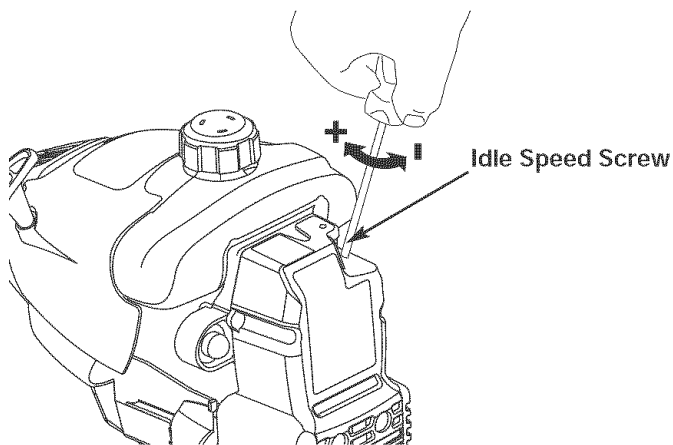

Fig. 24
The idle speed of the engine is adjustable through the air filter/muffler cover (Fig. 24).
2. Release the throttle trigger and let the engine idle. If the engine stops, insert a small phillips or flat blade screwdriver into the hole in the air filter/muffler cover (Fig. 24). Turn the idle speed screw in, **clockwise**, 1/8 of a turn at a time (as needed) until the engine idles smoothly.